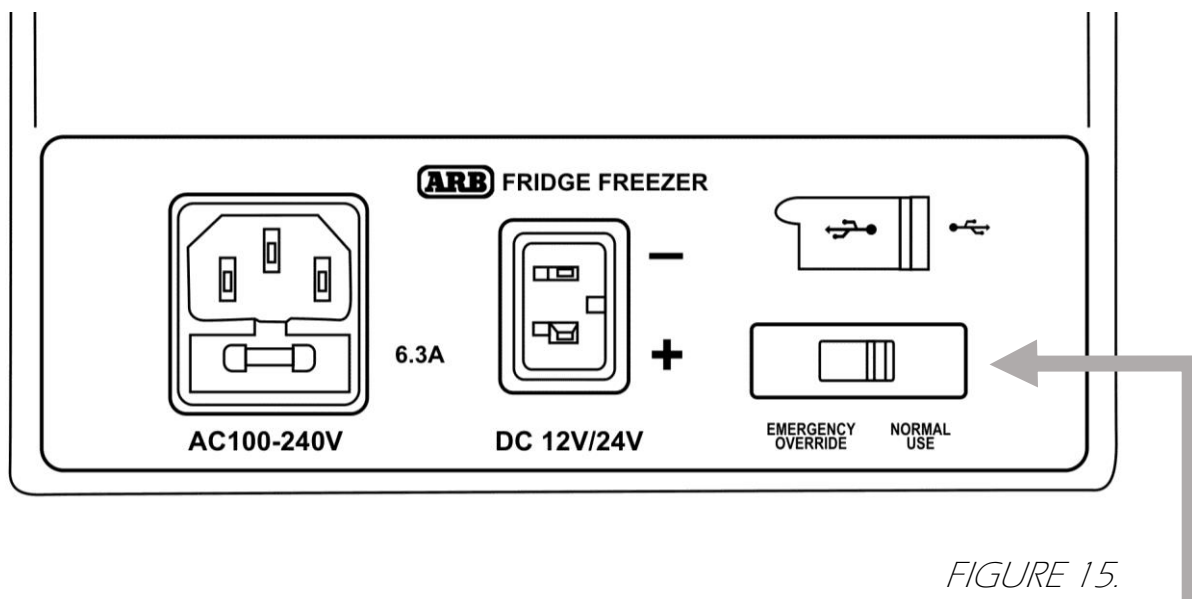

FIGURE 15.
- Slide the Emergency Override switch from NORMAL USE to EMERGENCY OVERRIDE (see Figure 15).